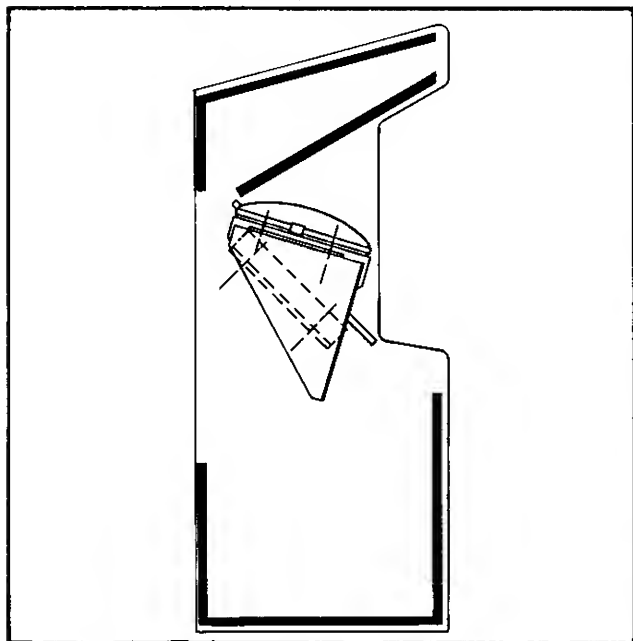

Figure 3-4 Removing the Monitor
1. Upright Model. See Figure 3-4.
The monitor is removed by sliding it out the front of the cabinet. See Figure 3-4.